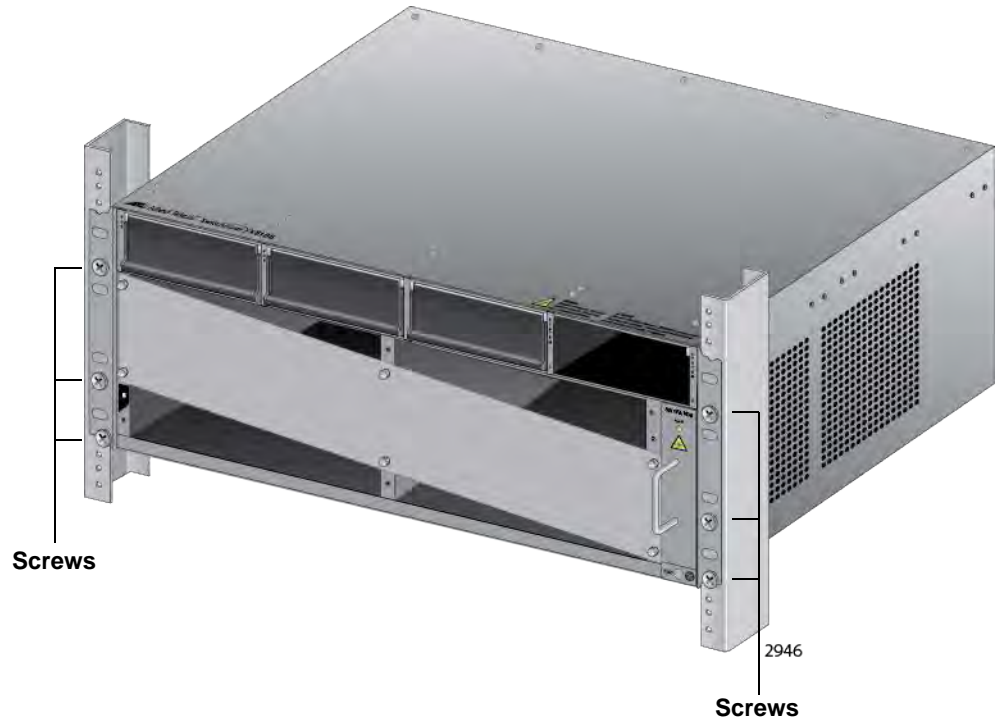

Figure 47. Tightening the Rack Mount Screws
5. Tighten all six screws shown in Figure 47 on page 121 to secure the chassis to the equipment rack, Allied Telesis recommends tightening the screws to 10 inch-lbs.